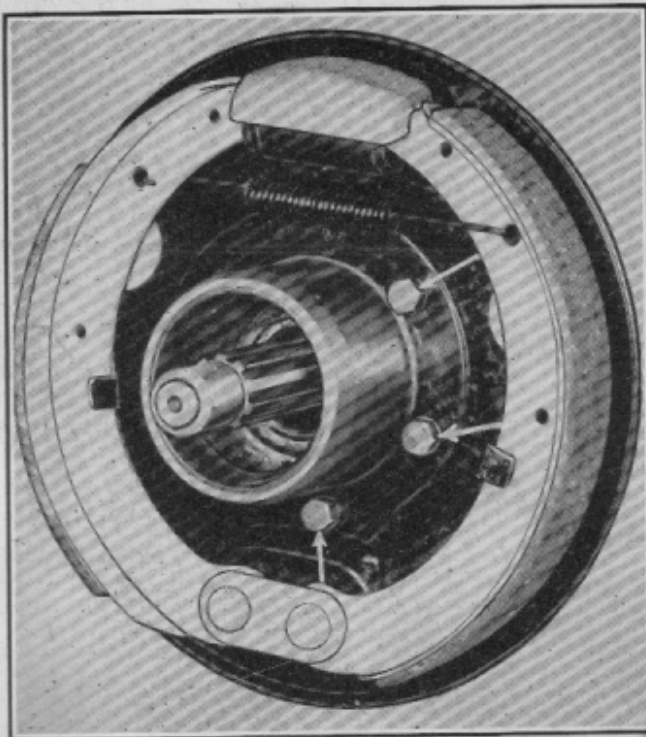

Fig. 8—Brake Backing Plate and Shoe Assembly Removal
2. Remove the brake backing plate cap-screws, Fig. 8. The brake backing plate can then be